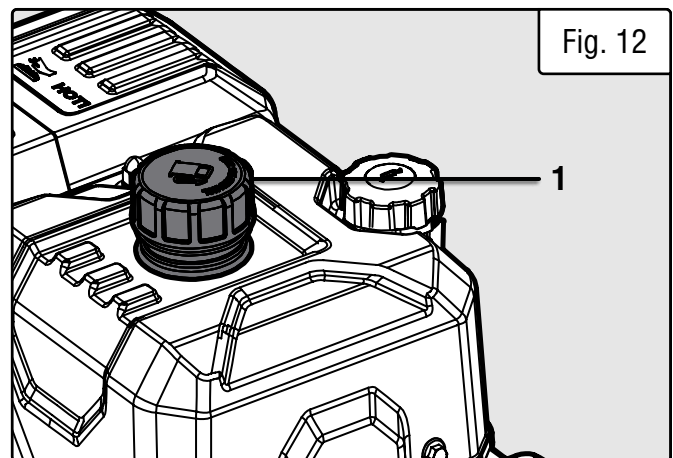

Fig. 12
2. Unscrew the fuel cap (Fig. 12 - 1) and set it aside. The fuel cap may be tight and hard to unscrew.